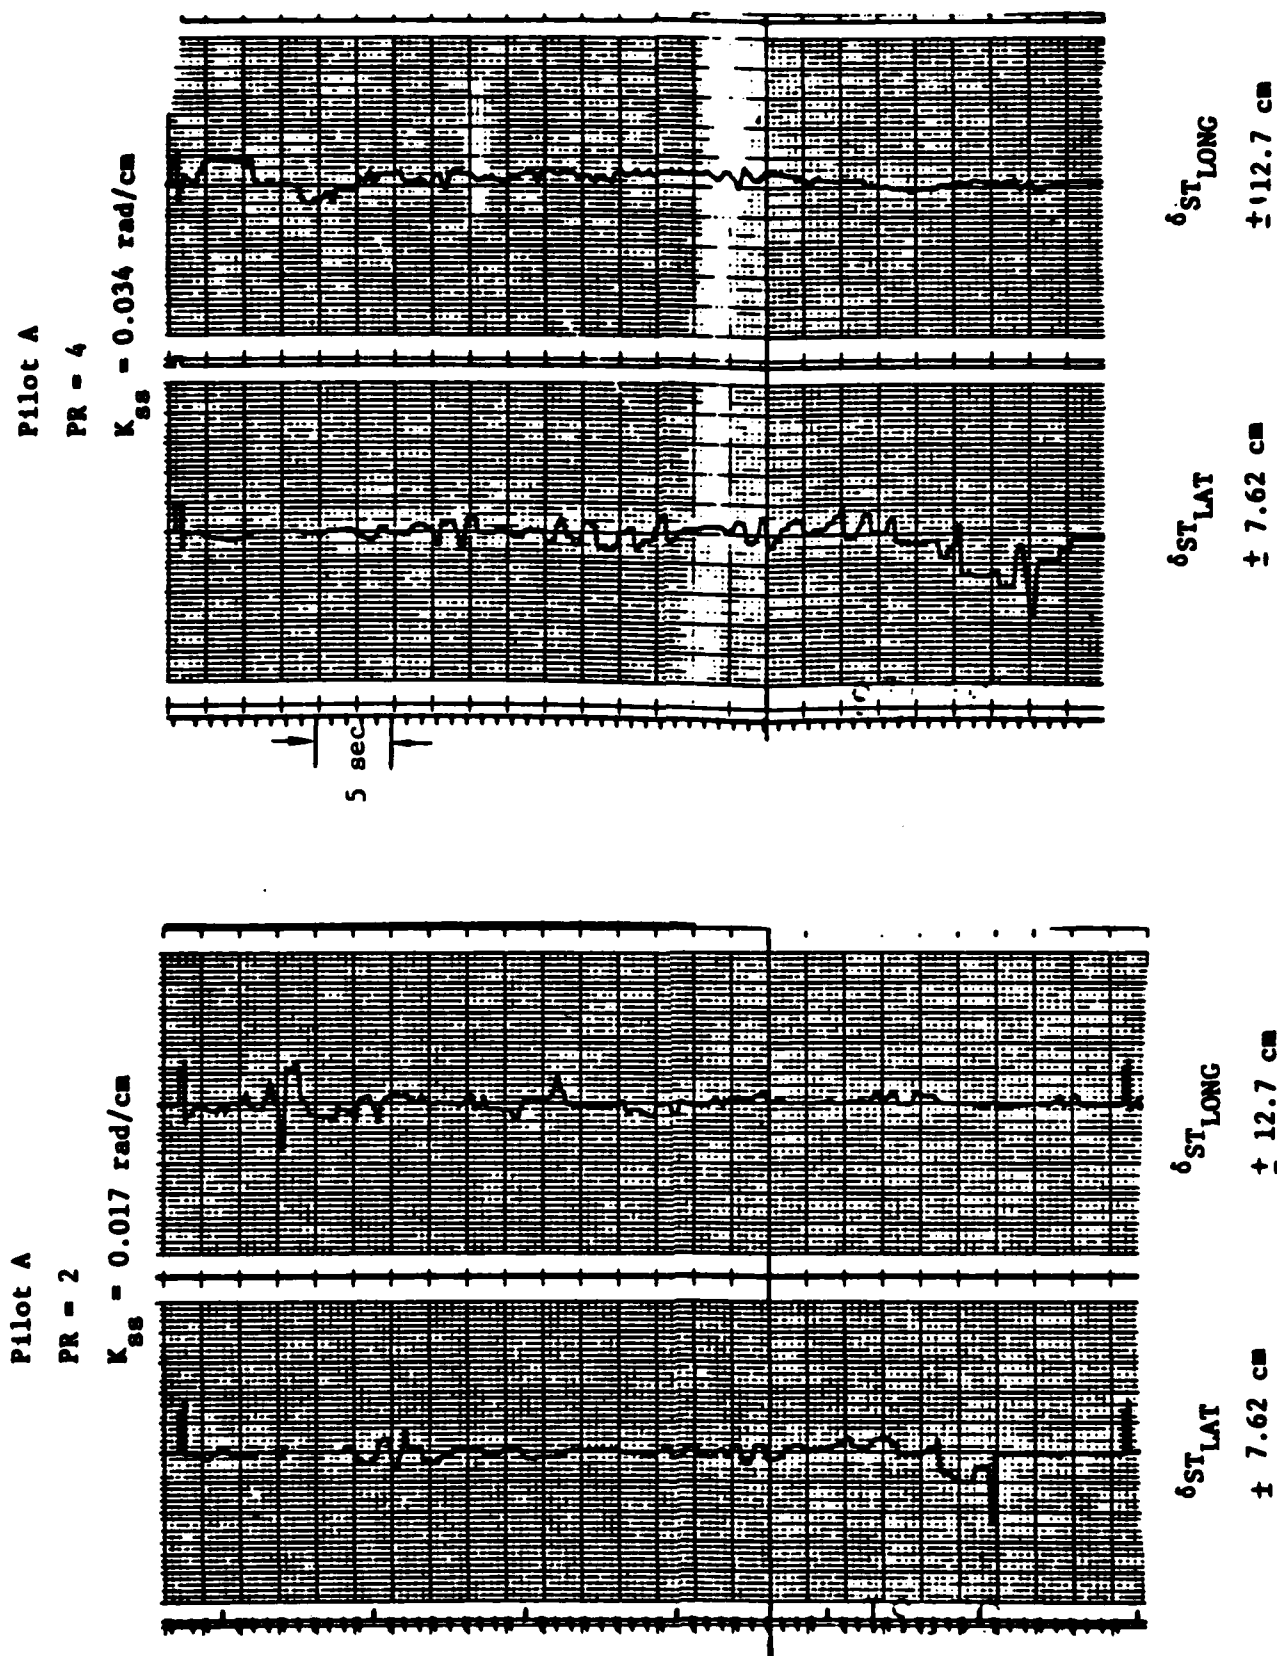

Figure 18. Strip Chart Recordings, Configuration TR17, Pilot A
Figures 18, and 19 present typical strip chart recordings of Pilot A's lateral and longitudinal stick deflections for four steady-state stick sensitivities (K_{ss}). The data shown are for Configuration TR17, $\zeta = 0.6$ and $\omega_n = 2.5$ rad/sec, which according to Figure 5 should be an excellent system. Figure 20 presents Pilot C's repeat runs of the two intermediate sensitivities.
The stick activity in both axes appears very similar for the lower steady-state stick sensitivities of 0.017 rad/cm and 0.034 rad/cm, (Figure 18). There was a slight increase in lateral stick usage for $K_{ss} = 0.034$ rad/cm. Typical comments were "just a shade quick" but "not too bad" for $K_{ss} = 0.034$ rad/cm. When K_{ss} was increased to 0.069 rad/cm the stick activity was markedly reduced and the pilot ratings (PR) degraded from Level 1 and 2 to Level 3. The pilots commented that the response was "too sensitive" with "low damping". By reducing their stick activity, the pilots apparently were trying to avoid pilot induced oscillations (P.I.O.). However, as K_{ss} was increased further to 0.137 rad/cm, the stick motions became rapid and large. This high sensitivity made the aircraft P.I.O. - prone and difficult to control, with a pilot rating of 10.